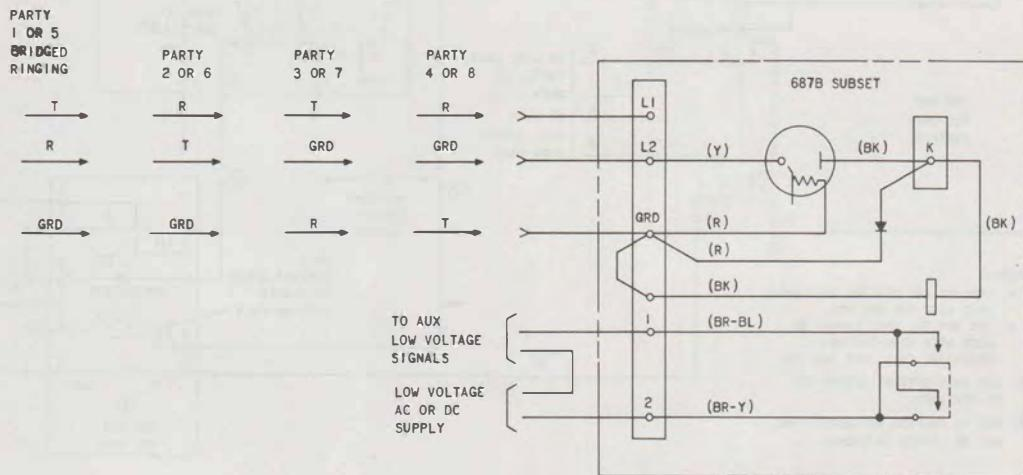

Fig. 29—Connections for Noncontinuous Low Voltage Auxiliary Signal
4.01 Noncontinuous Signals (Fig. 29): The 687B subscriber set has a cold cathode tube and relay in place of the ringer. When the relay is operated by rectified ringing voltage, the relay contacts may be used to control a signal energized from a local low voltage source.
6.06 Connections for noncontinuous low voltage signals such as bells, buzzers, and lamp indicators are shown in Fig. 29.